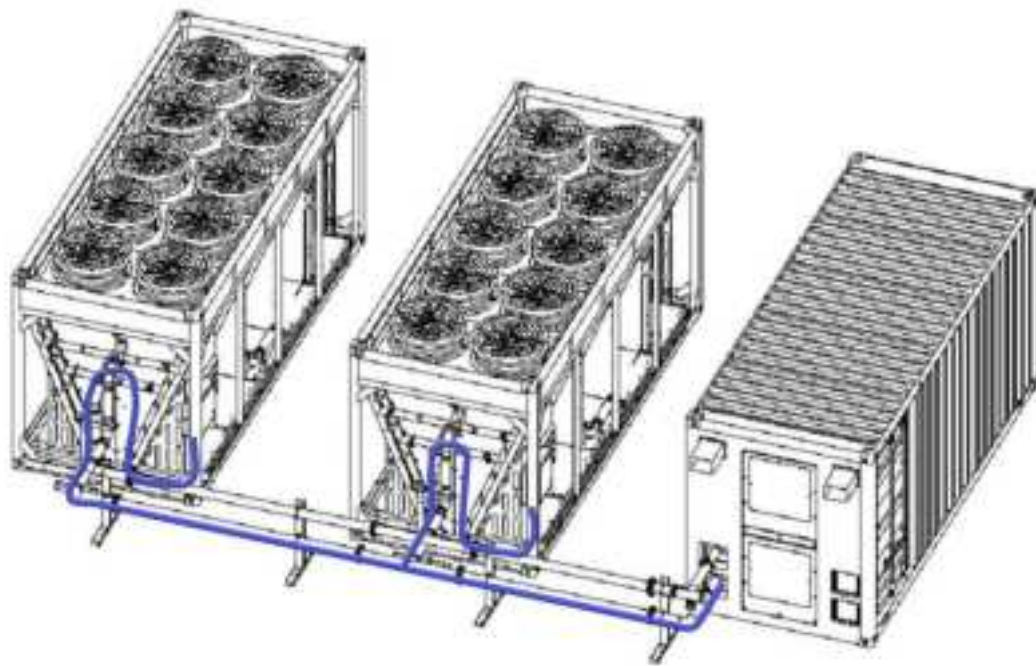
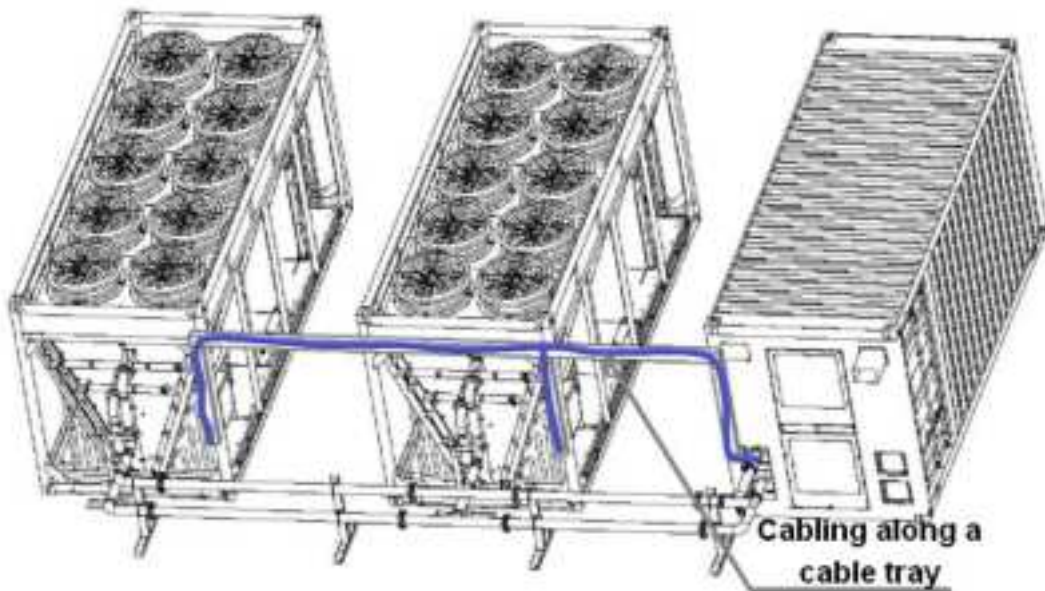

Figure 6-18 Schematic diagram of cabling along engineering pipes
Figure 6-19 Schematic diagram of cabling along a cable tray at heights
The cables of the dry tower can be routed according to the following two ways: (1) cabling along the engineering pipes; (2) cabling along a cable tray, which are shown in the following Figure 6-18 and Figure 6-19 .